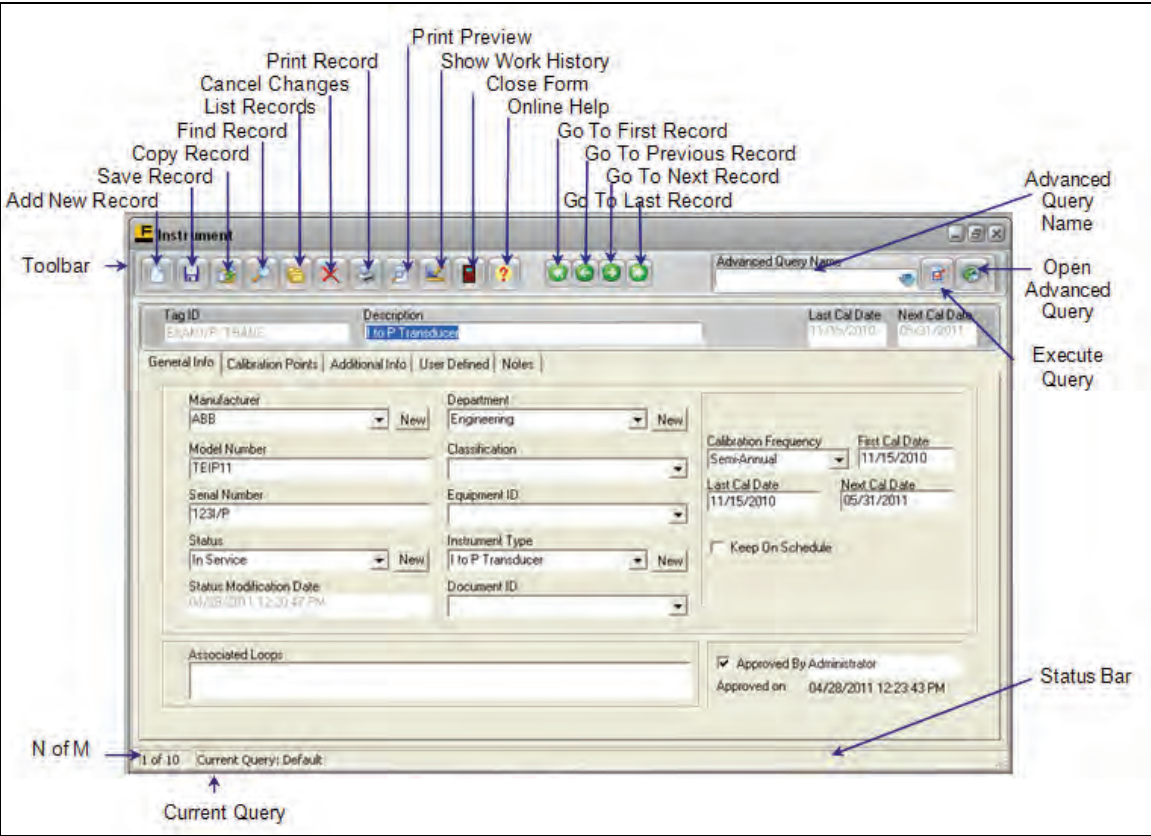

Figure 5.1
This screen's sub-category **Toolbar** contains fifteen (15) different action buttons, although some screens in the program may not contain all of these if they are not applicable. In addition, the **Toolbar** also has an *Advanced Query Name* field with buttons providing quick access to the ADVANCED QUERY SCREEN and queries that have been saved in the system. You may view each button's function by slowly moving the mouse along the **Toolbar**. As you do this, each button's function will be displayed in a yellow hint box. To use an action button, click it with your mouse. Each button and its function are illustrated in Figure 5.1 shown below. The Master Instrument Record screen is used for this demonstration.
When a standard screen is open, the **File** menu changes to offer you similar options to that of the sub-category **Toolbar** shown in Figure 5.1 on the previous page. For example, from the **File** menu on the Instrument screen you may select from the following choices: “New Record”, “Copy Record”, “Save Record”, “Find Record”, “List Records”, “Show Work History”, “Delete Record”, “Close Form” and “Exit DPCTrack2.